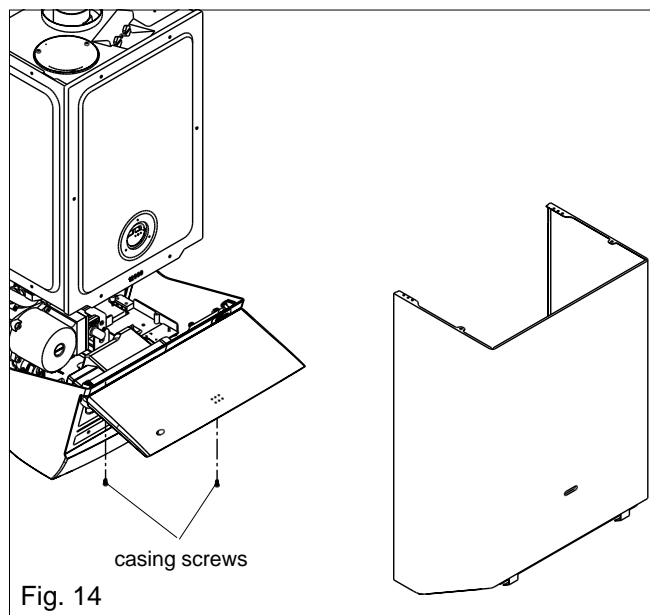

Fig. 14
- locate and remove the 2 screws that secure the controls fascia to the appliance casing (see fig 14);